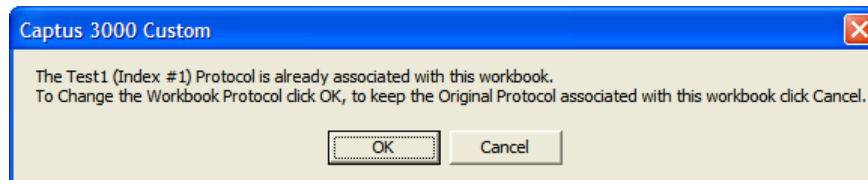

Figure 16-35
**Note:** Re-entering the Excel workbook in Setup mode and entering a Protocol Index number different from the one that was previously saved with the workbook will cause the message box shown in Figure 16-35 to appear.